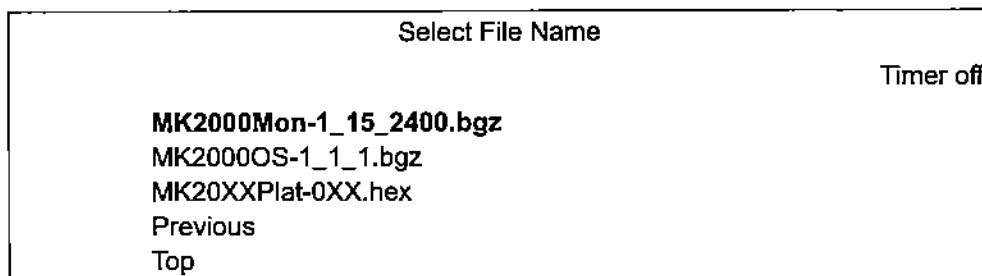

Figure F-10. Select File Name Menu
5. **Select the Monitor Upgrade File** - see Figure F-10. The *Select File Name* menu is displayed. Use the **A** button (Down) to highlight MK2000Mon-1_15_2400.bgz and select using the **C** button (Select/Action).